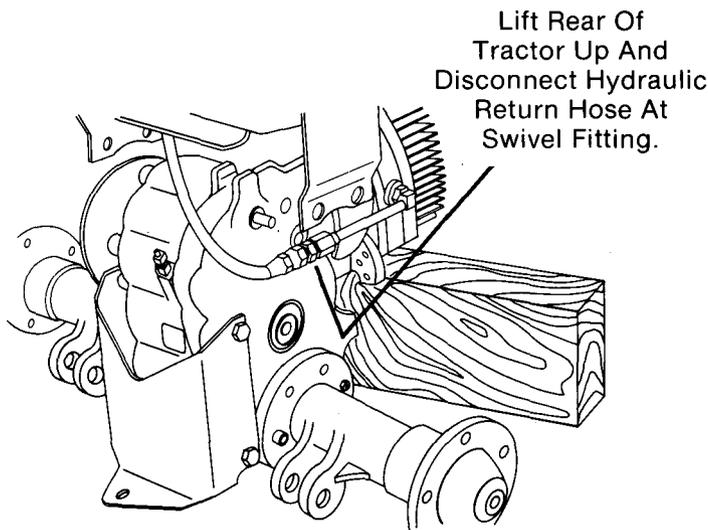

FIG. 80
- M. Carefully lift rear of tractor main frame up just far enough to disconnect hydraulic return hose, from filter at swivel fitting on right side of transaxle. (Fig. 80) NOTE: Some oil may drain out filter. Raise hydraulic hose above filter level to stop draining.
- A. Reconnect hydraulic return hose at swivel fitting. (Fig. 80)